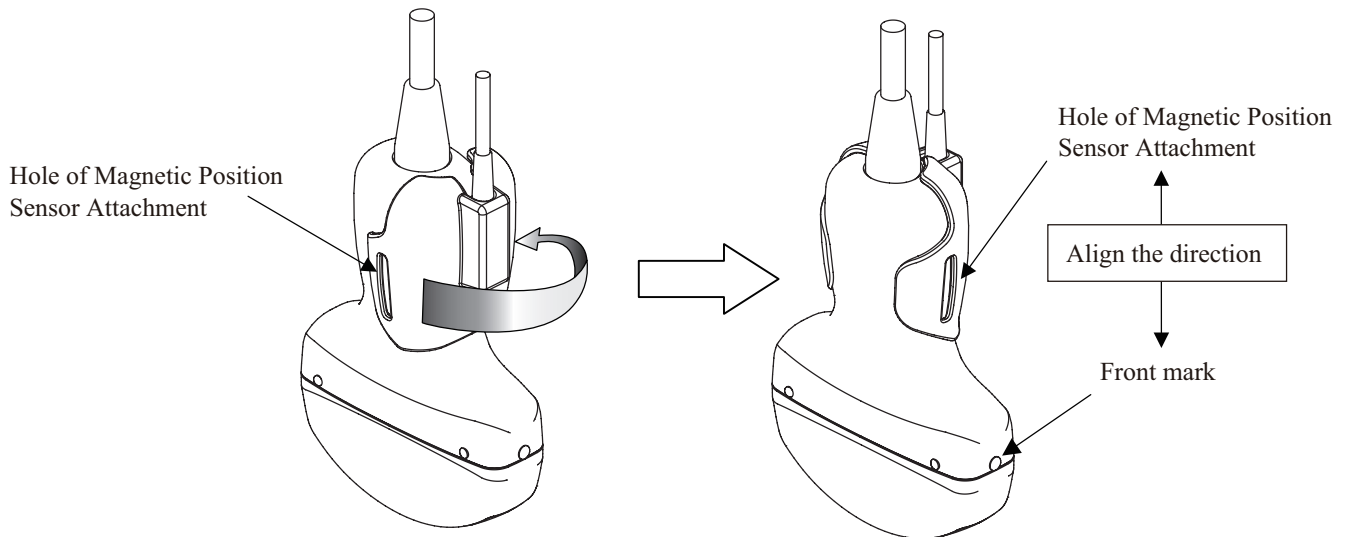

Figure 4 How to attach Magnetic Position Sensor Attachment
- (2) Attach the magnetic position sensor attachment to the probe by turning it anti-clockwise as shown in Figure 4. Please confirm that the hole of the attachment and the front mark of the probe are aligned in the same direction.